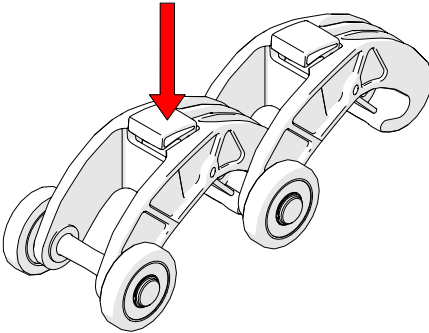

Fig. 72 - Press button
1. Press the button on the top of the QuickLink (Fig. 72).